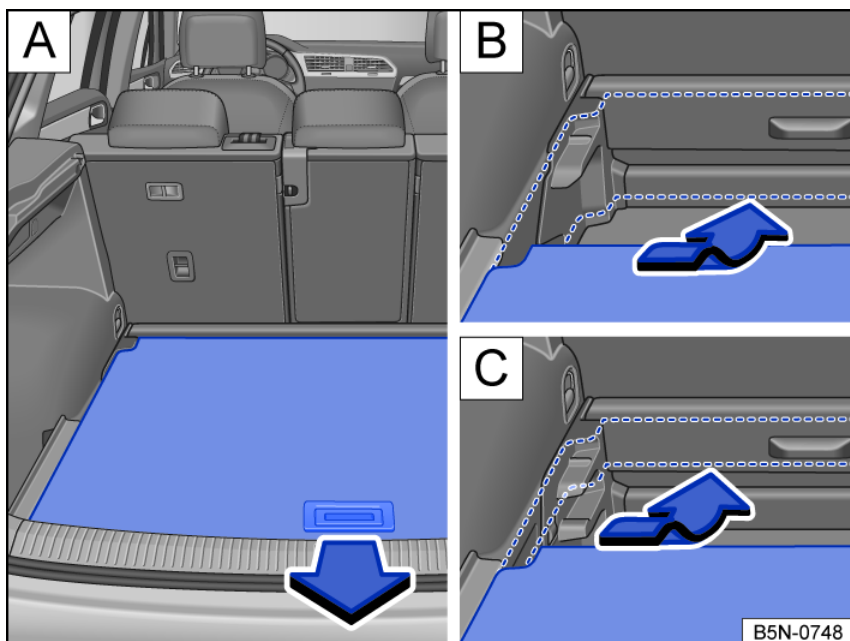

Fig. 153 In the luggage compartment: Adjust the height of the luggage compartment floor.
- Lift the luggage compartment floor and pull it backwards out of the guides on the sides of the luggage compartment *fig. 153* **(A)**.
- Insert the luggage compartment floor into the guides at the desired height and push it forwards as far as it will go *fig. 153* **(B)**, **(C)**.
- Pull the luggage compartment floor by the handle *fig. 153* backwards out of the guides on the sides.